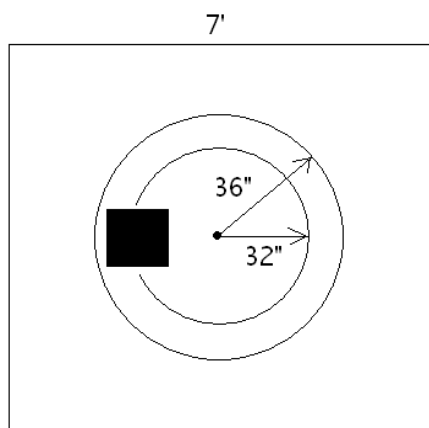

Figure 3: Turning Radius Test
**Test Method:** A square sheet of plywood (7' x 7') with two pre-drawn concentric circles (32" and 36" in radius) will be laid on the field. The robot will be centered over the inner, 32" radius circle as shown in Figure 3. With closed-loop control robots will demonstrate their minimum turning radius. A robot that completes one turn keeping its center within the 36" radius circle will have met the target value.